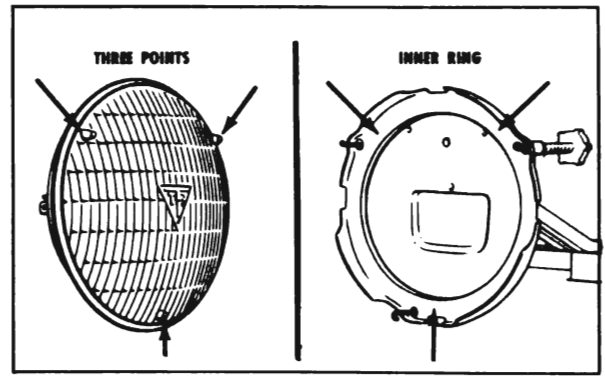

Figure 10-64—Mounting Aimer on Headlamp
3. Mount the aimers on each headlamp so that points engage smooth inner ring of aimer. Be sure to mount left hand aimer (with string) first. See Figure 10-64.